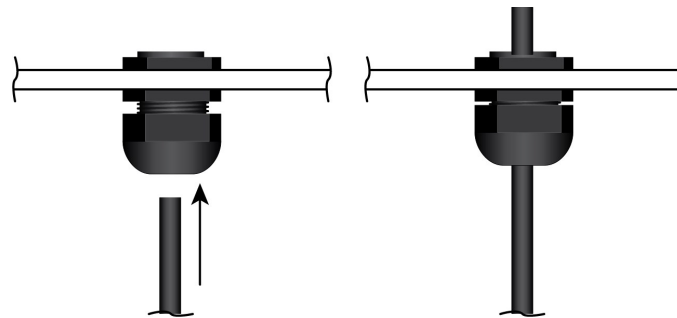

FIGURE 6-4. Cable inserted into compression fitting
3. Route each sensor and component cable through a unique compression fitting (FIGURE 6-4 (p. 12)). When using the ENC16/18UL, also route the ground wire through a compression fitting to the data logger inside the enclosure. If multiple components need to be grounded inside the UL enclosure, install a terminal strip for all ground connections.
9. Rotate each compression fitting so that the fitting clamps tightly against the sensor cable to provide a water-tight seal (see FIGURE 6-4 (p. 12)).